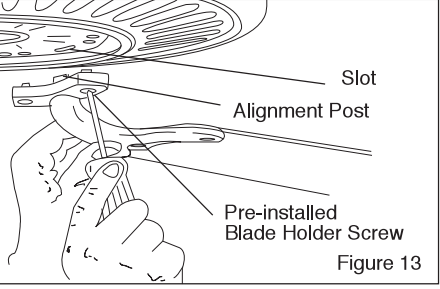

Figure 13
- Position the blade holder under the motor such that the alignment post on the blade holder fits into the slot in the motor (Figure 13).